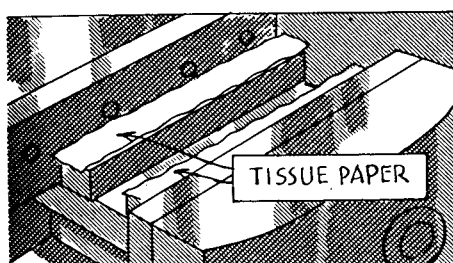

FIG. 381
7. Put strips of tissue paper on the parallels and lay the work centrally in the vise and upon the parallels. This central position of the work will equalize the pressure against the jaws when they are tightened (Fig. 381).